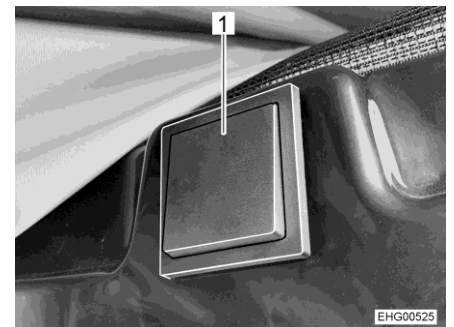

Fig. 69 Push button for electrical release
The push button for the electrical release (Fig. 69) is located on the right-hand side in the area above the sliding door.
- Press and hold the push button (Fig. 69,1) for least 2 seconds.